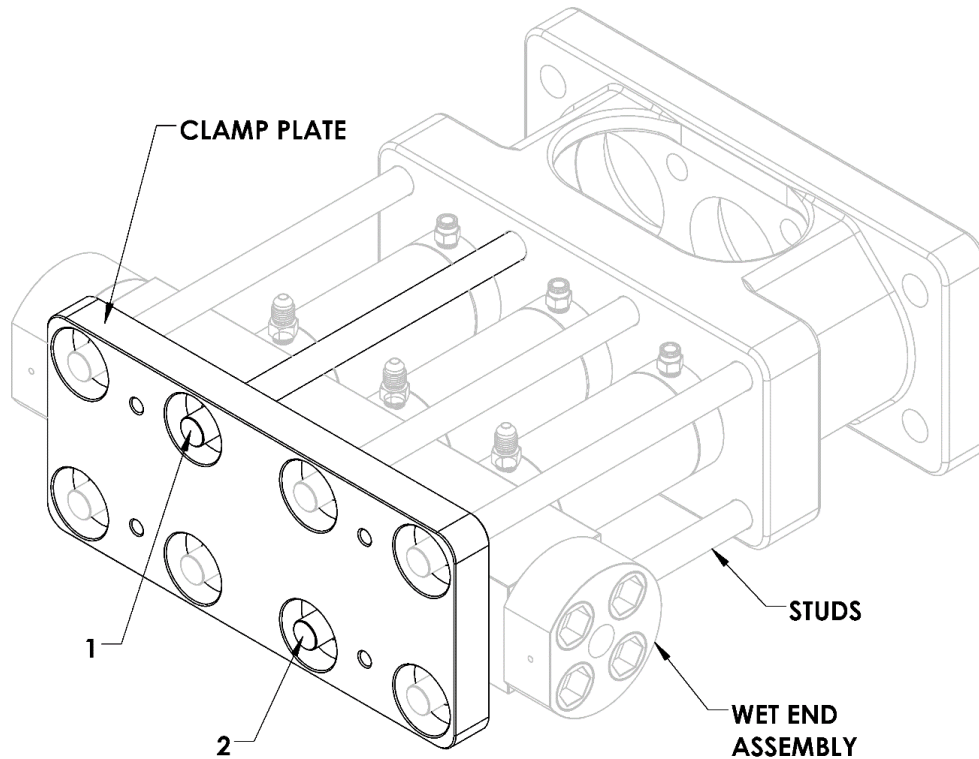

Figure 44 Installing the Clamp Plate
4. **Install** clamp plate and pair of nuts on studs numbered 1 & 2 in **Figure 44** below. **Apply** plentiful amount of anti-seize compound on both the stud threads and the face of the nuts that face the clamp plate.